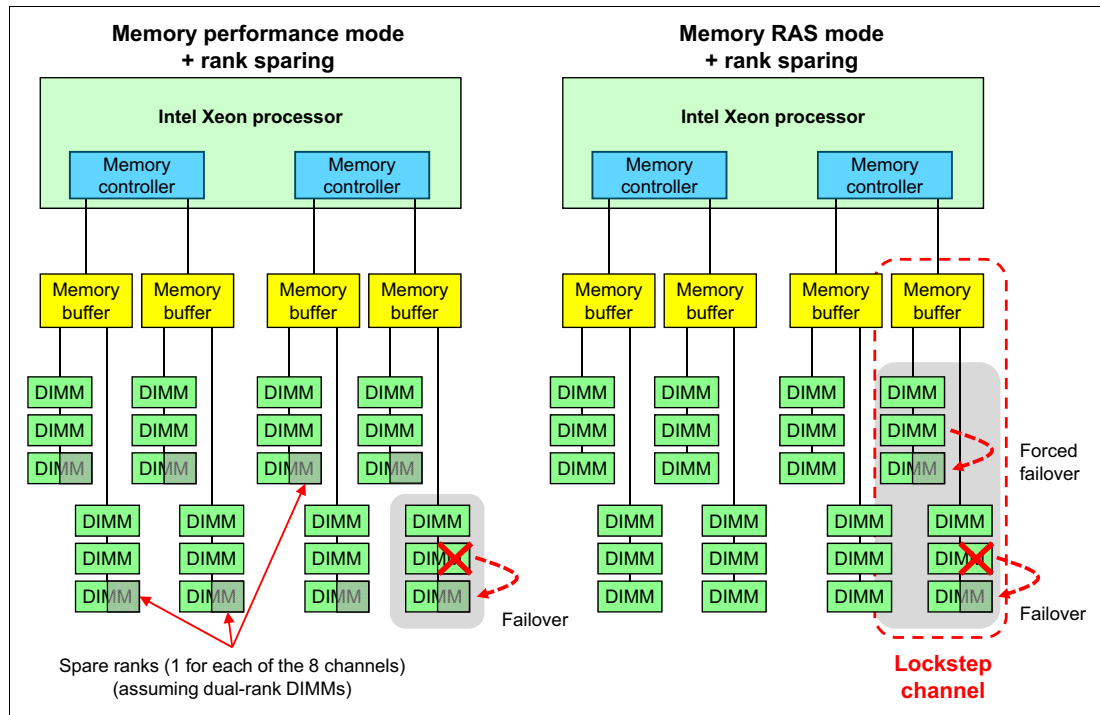

Figure 17 Rank sparing: Performance mode (left) and RAS mode (right)
- ▶ When Performance mode is used, rank sparing duplicates data between memory modules of the *same channel* of one memory buffer. If there is an imminent failure (as indicated by a red X in Figure 17 on page 29), that rank is taken offline and the data is copied to the spare rank.
- ▶ When RAS (Lockstep) mode is used, rank sparing duplicates data between memory channels of one memory buffer. If there is an imminent failure (as indicated by a red X in Figure 17 on page 29), that rank is taken offline and the data is copied to the spare rank. In addition, the partner rank on the other channel that is connected to the same memory buffer also is copied over.
Figure 17 shows the rank sparing usage with Performance mode (left) and RAS mode (right).